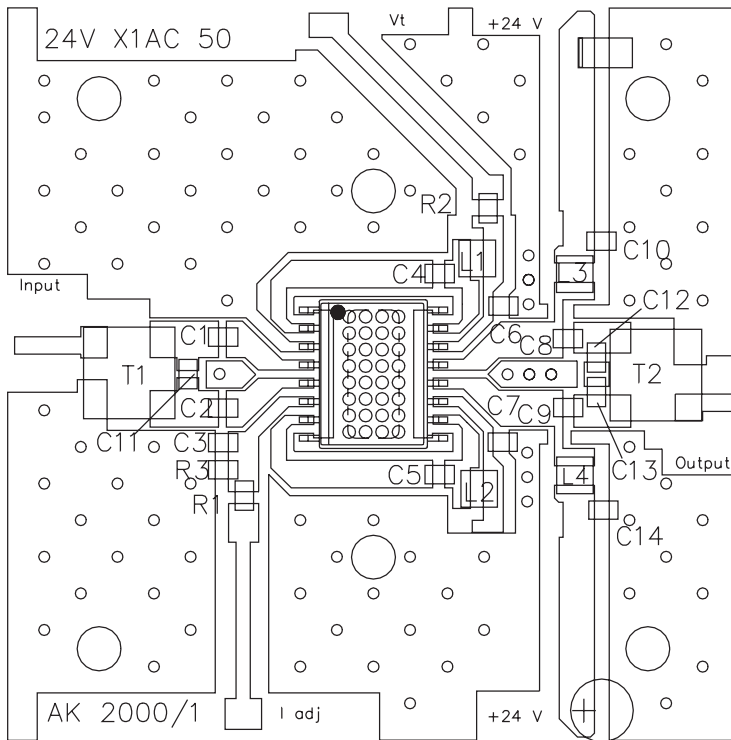

Figure 7: Evaluation Board Layout
- (1) Measured with baluns on the input and output of the device.
(2) Parts measured with 77 channels, +56 dBm V power, 13.5 dB tilt at 870 MHz.
(3) Parts measured with 110 channels, +52 dBm V power, 13.5 dB tilt at 870 MHz.
(4) All specifications as measured on Evaluation Board (see Figures 7 & 8).
(5) 112 analog channels plus QAM, +51 dBmV, 15.6 dB tilt at 1 GHz.
(6) QAM is set 6 dB below analog carrier.